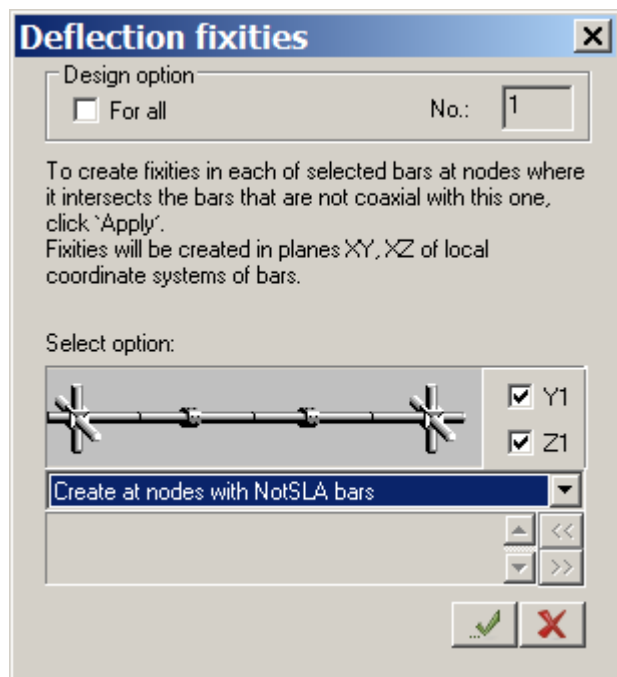

Figure 3.28 **Deflection fixities** dialog box
- ⇒ In the **Deflection fixities** dialog box (see Fig.3.28), select **Create at nodes with NotSLA bars** option in the list. Then select Y1 and Z1 check boxes.